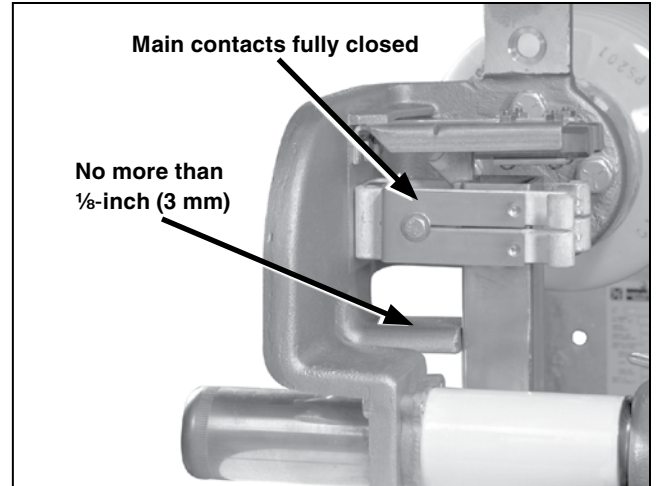

Figure 45. Check that the blade is fully closed and within $\frac{1}{8}$ -inch (3 mm) of the stop on the terminal base casting.
- (a) With the operating handle as far as it will go in the closing direction, both main contacts of each switch pole are fully closed with the blade within $\frac{1}{8}$ -inch (3 mm) of the stop on the terminal base casting. See Figure 45.